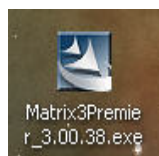

FIG. 3
3. Double click the Matrix3Premier.exe icon (FIG. 3).